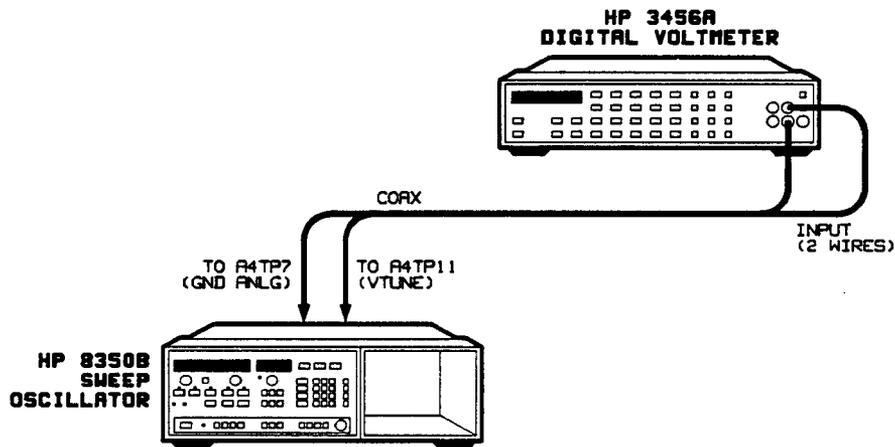

Figure 5-10. Manual Sweep Adjustment Setup
3. Position the sweep oscillator upright, as shown in Figure 5-10, and remove the top cover.